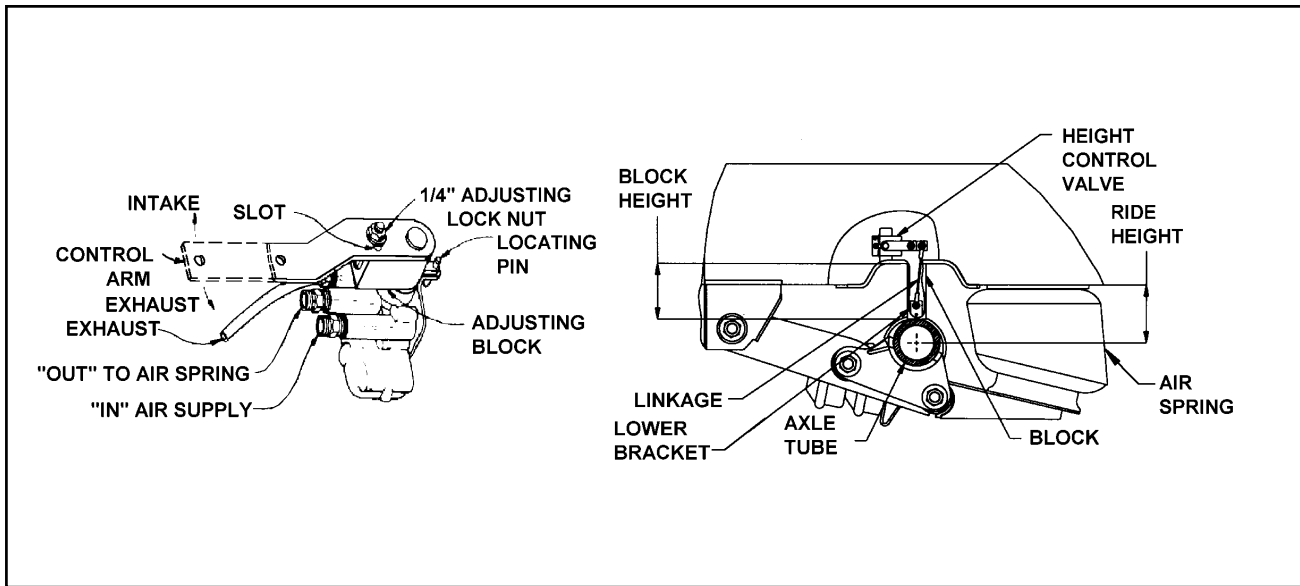

Figure 4-5 Air Ride Height Adjustment
4-6.3 Air Ride Height Adjustment. (See Figure 4-5 for parts identification).
- b. Disconnect linkage at the control arm and raise control arm to the "up" position, raising the trailer until a block can be placed between axle tube and undercarriage frame (See Figure 4-5).
- f. Loosen the 1/4" adjusting lock nut located on the adjusting block, allowing the control arm to move approximately 1 inch. Move the adjusting block until holes align, then insert locating pin. (See Figure 4-5).